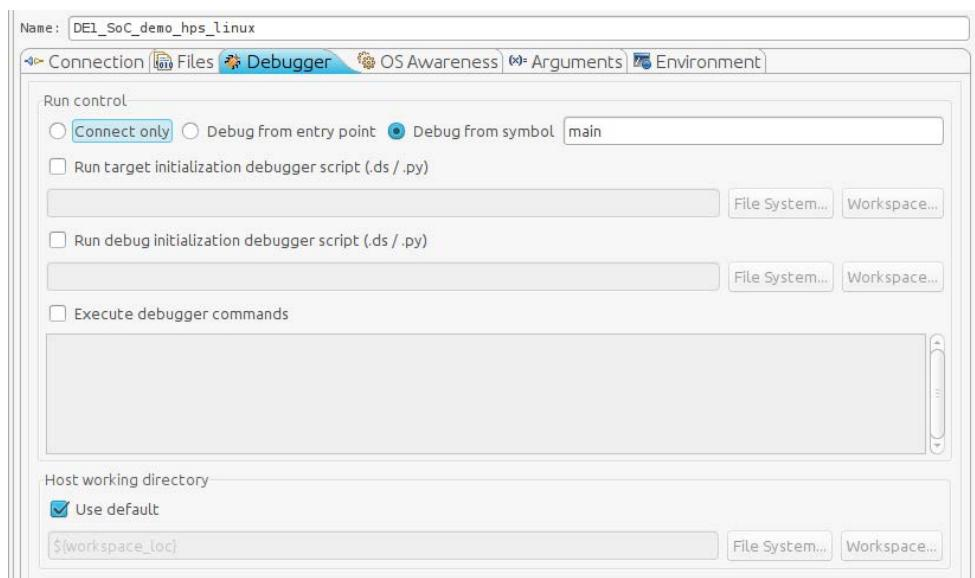

Figure 13-11. Debug Configuration "Debugger" Tab
- Under the "Debugger" tab, make sure that "Debug from symbol" is selected and that "main" is the name of the symbol, as shown in Figure 13-11.